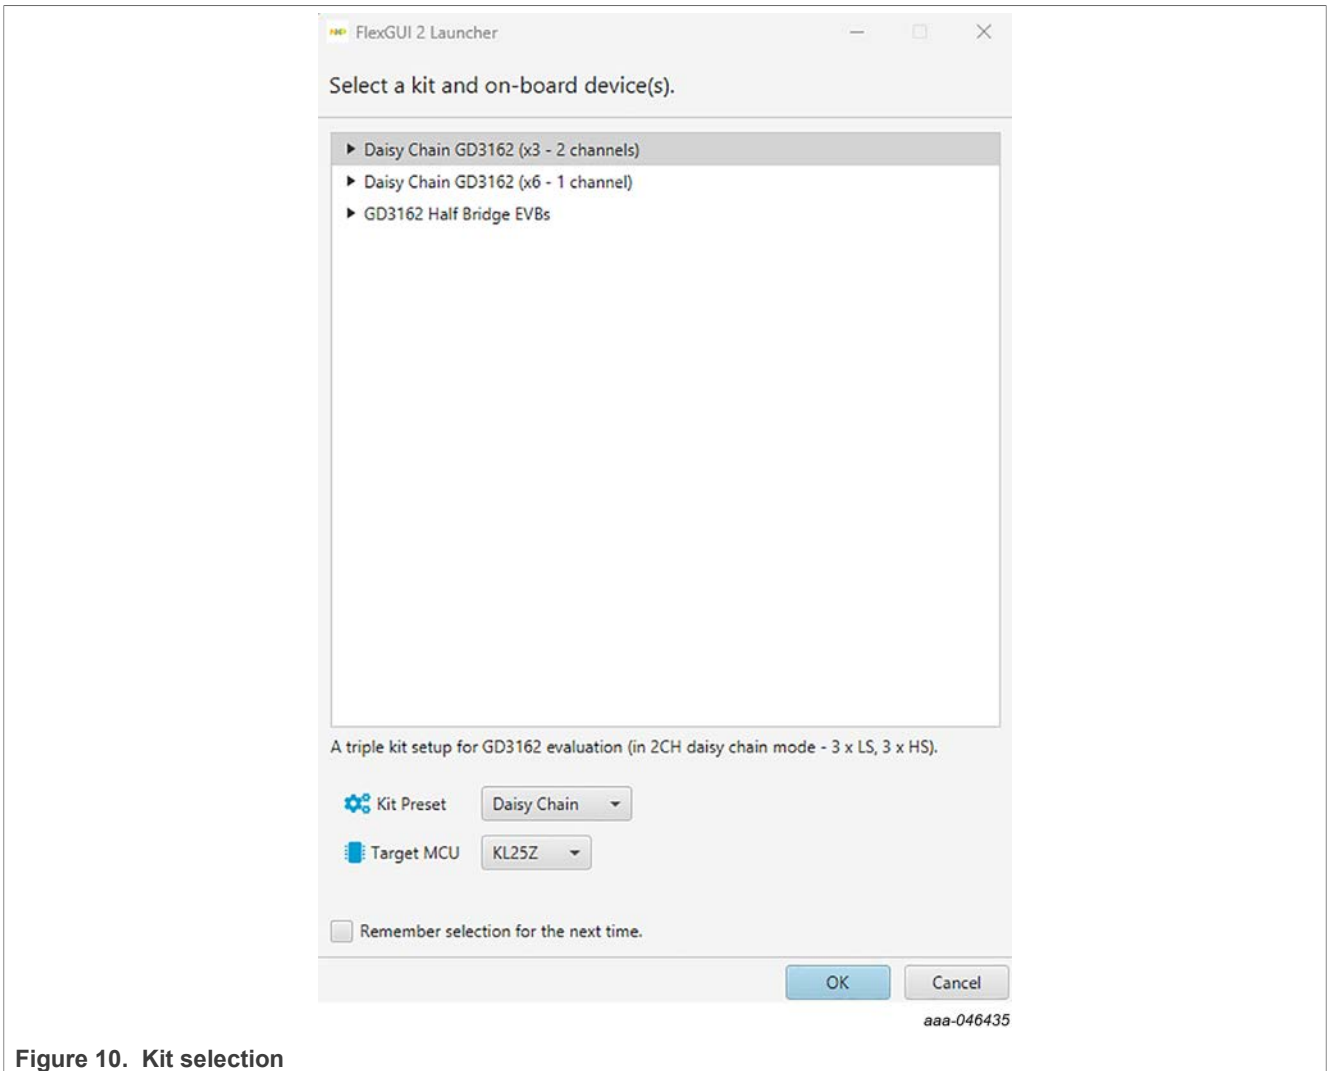

Figure 10. Kit selection
SPI messages can be generated graphically or in hexadecimal format. See Figure 10 through Figure 26 for FlexGUI 2 for GD3162 internal register read and write access.
- When the application starts, Figure 10 allows the user to select the target application board, feature set (standard or daisy chain), target MCU, and USB interface; leave all settings as shown